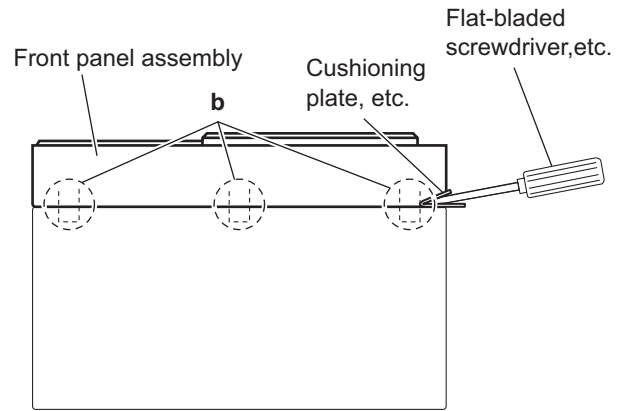

Fig.2
3.4.2 Removing the front panel assembly (See Figs.2 and 3)
(1) Insert the tip of a flat-bladed screwdriver or similar tool into the space between the speaker main body and front panel assembly, and lift the front panel assembly little by little to remove the sections **b**. (See Fig.2.)
To prevent damaging the front panel assembly and speaker main body, insert cushioning plates etc. into the space between the speaker main body and front panel assembly. (See Fig.2.)